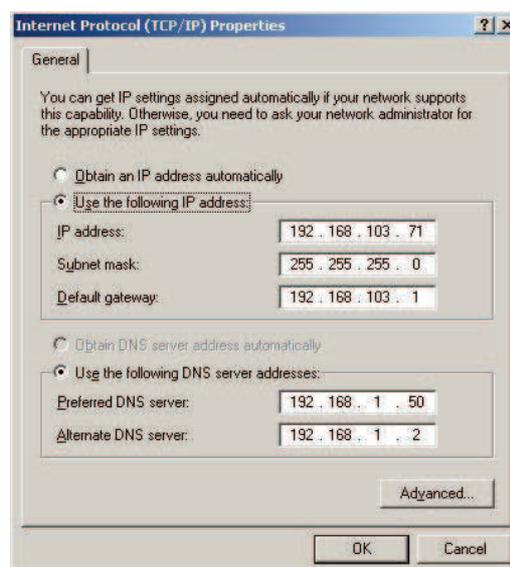

Figure 3.1 - Change of the IP Address
7. Choose the **Internet Protocol** option (see Figure 3.1 below) and click the **Properties** button.